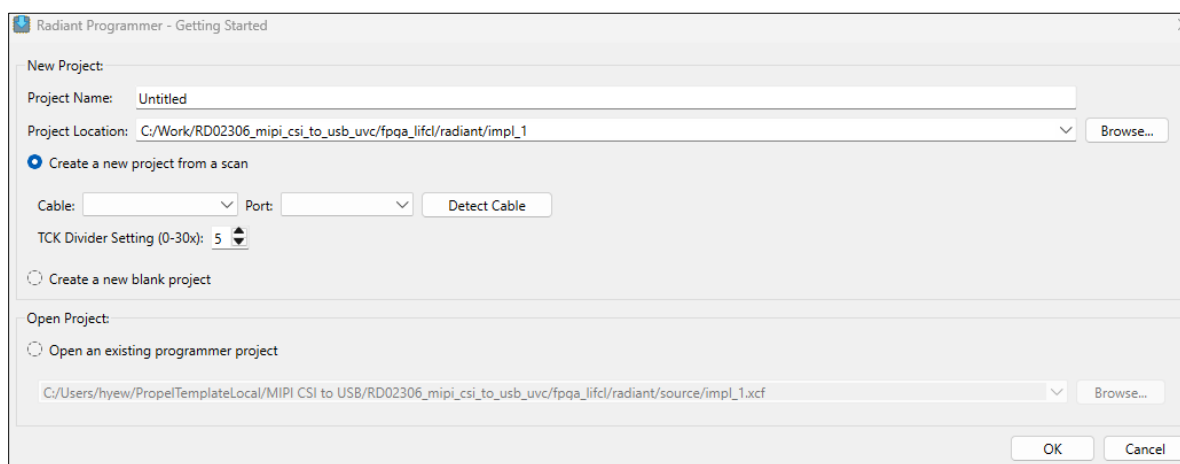

Figure 6.1. Creating a New Project from a Scan
2. Create a new project using the Lattice Radiant Programmer software. In the **Getting Started** dialog box, enter the **Project Name** and **Location**, as shown in Figure 6.1.